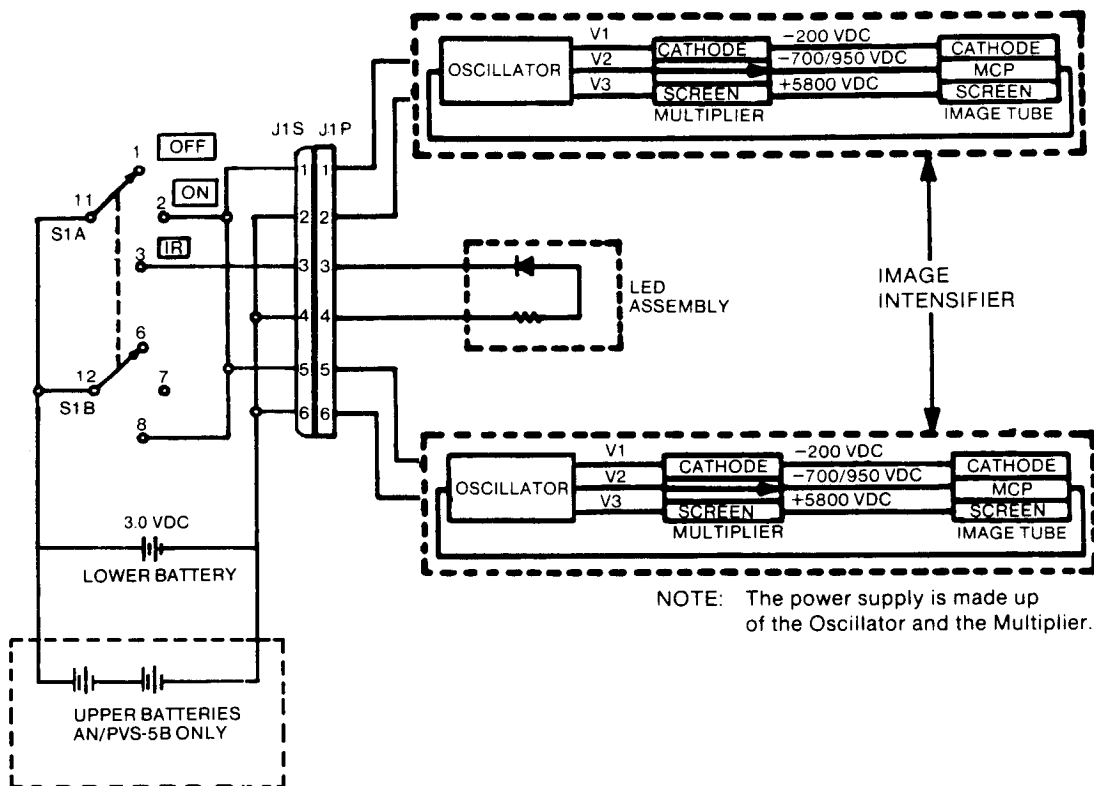

Figure 1-6. Electrical Circuit Block Diagram for the AN/PVS-5, -5A, and -5B NVG.
(1) **GROUND USE.** The AN/PVS-5 and -5A electronic circuit is powered by a replaceable 3.0-volt BA-5567/U lithium battery (fig. 1-6). The AN/PVS-5B electronic circuit is powered by either two 1.5-volt BA-3058/U AA batteries in the upper battery compartments or one 3.0-volt BA-5567/U lithium battery in the lower battery compartment (fig. 1-6).
a. Image Intensifier Configuration. The image intensifier is contained within the monocular housing (see electronic circuit block diagrams (fig. 1-6 thru 1-8)). High voltage power supplies are formed around the monocular, with the monocular and power supply molded into one unit by use of a potting compound. The image intensifier for the AN/PVS-5 is not interchangeable with the AN/PVS-5A, -5B, or -5C.
(1) The source of primary power is supplied by a 3.0-volt BA-5567/U lithium battery for AN/PVS-5, and -5A. The AN/PVS-5B and -5C are powered by one BA-5567/U lithium battery or two 1.5-volt BA-3058/U M alkaline batteries through the rotary switch and electric connectors to regulators in the oscillator section. The GM-6(V)1 and GM-6(V)2 are similar but the power source is through the battery power pack which is mounted on the helmet.
(2) One regulator supplies the input voltage to an oscillator, with alternating current output voltages to the cathode and screen multiplier circuits. The multiplier circuits rectify the voltages to produce DC voltages V1 (-200 vdc with respect to V2) and V3 (+5800 vdc with respect to ground).
(3) A second regulator supplies the input voltage to an oscillator that produces DC output voltage V2 to the microchannel plate (MCP). The V2 voltage is variable from -700 to -950 vdc regulated with respect to ground.
(4) Luminous energy received by the photocathode element causes current to flow from the MCP back to the oscillator section, through the multiplier circuits, and to the screen as an intensified image.